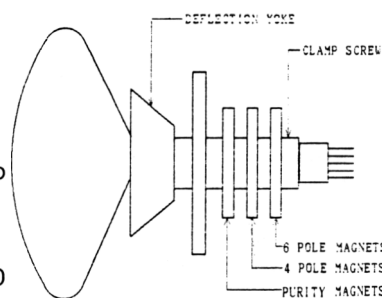

Figure 2. Picture Tube Neck Component Location
1. Check for correct location of all neck components (refer to Figure 2).